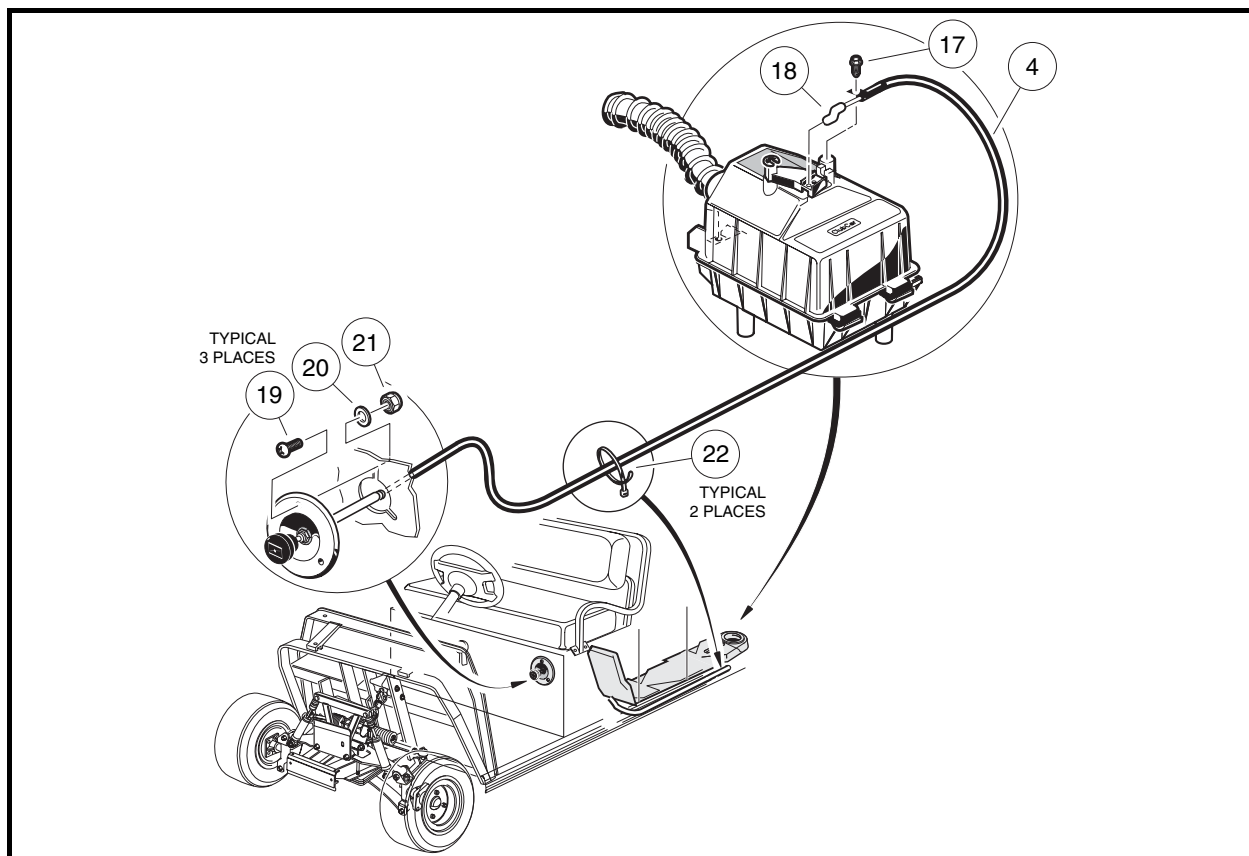

Figure 4-6 Villager 6 and 8 Choke Cable
15. Remove the screw (17) securing the choke cable to the air box and detach cable end (18) from choke lever (**Figure 4-6, Page 4-6**).
16. Remove the wire ties (22) that secure choke cable to the vehicle frame.
17. Remove three screws (19), nuts (21) and washers (20) from body and remove choke cable assembly from body.
8. Install three screws (19), washers (20), and lock nuts (21) as shown and tighten to 18 in-lb (2.0 N·m) (**Figure 4-6, Page 4-6**).
10. Attach choke cable to choke lever on air box. Install screw (17) to secure cable to air box and tighten to 18 in-lb (2.0 N·m) (**Figure 4-6, Page 4-6**).